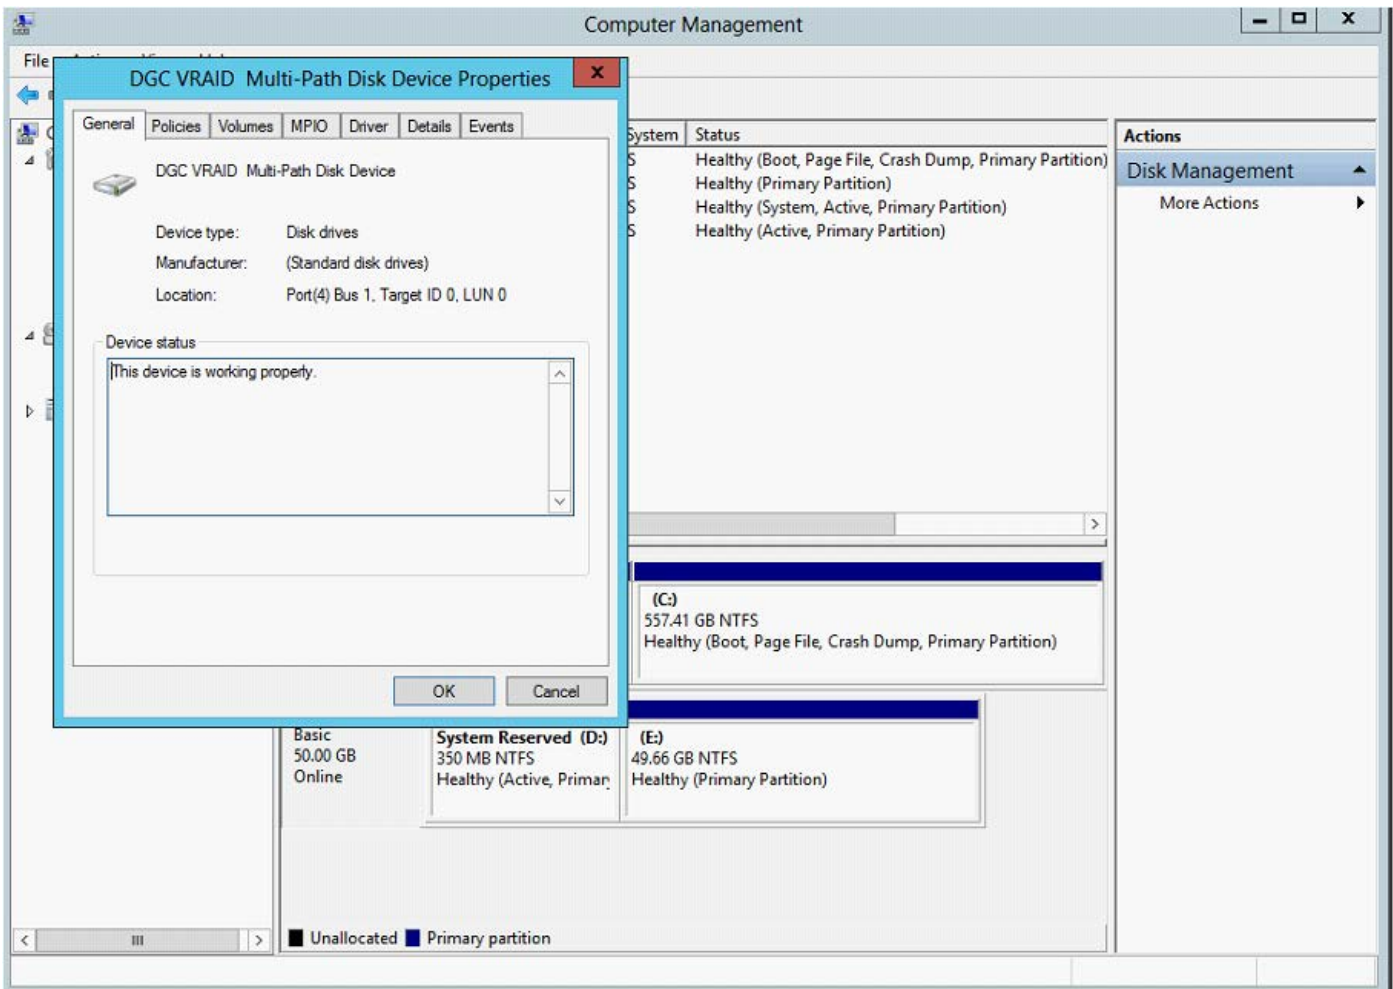

Figure 56 Remote LUN Properties
7. Once the new LUN has been discovered and brought online, right click next to Basic and choose properties. As can be seen in Figure 56, DGC VRAID Multi-Path Disk Device is the identification information sent from the EMC VNX 5300 storage array.